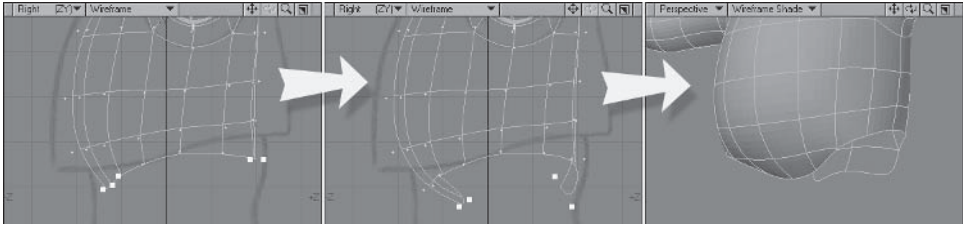

Figure 5.4-13. Creating holes for the legs.
2. Adjust the points to match Figure 5.4-13, making sure not to move the two side points at the front.